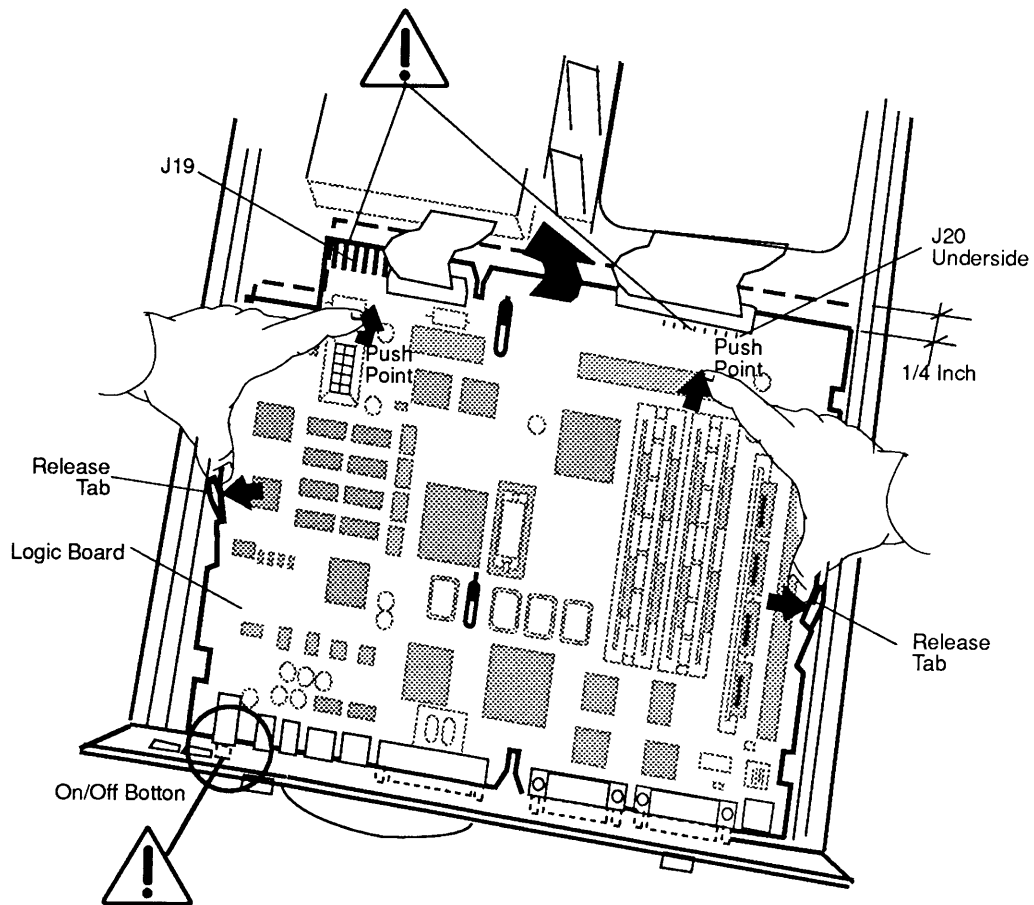

Figure 2-9 Main Logic Board
3. Use your forefingers to release the two tabs (**Figure 2-9**) that secure the logic board in place.